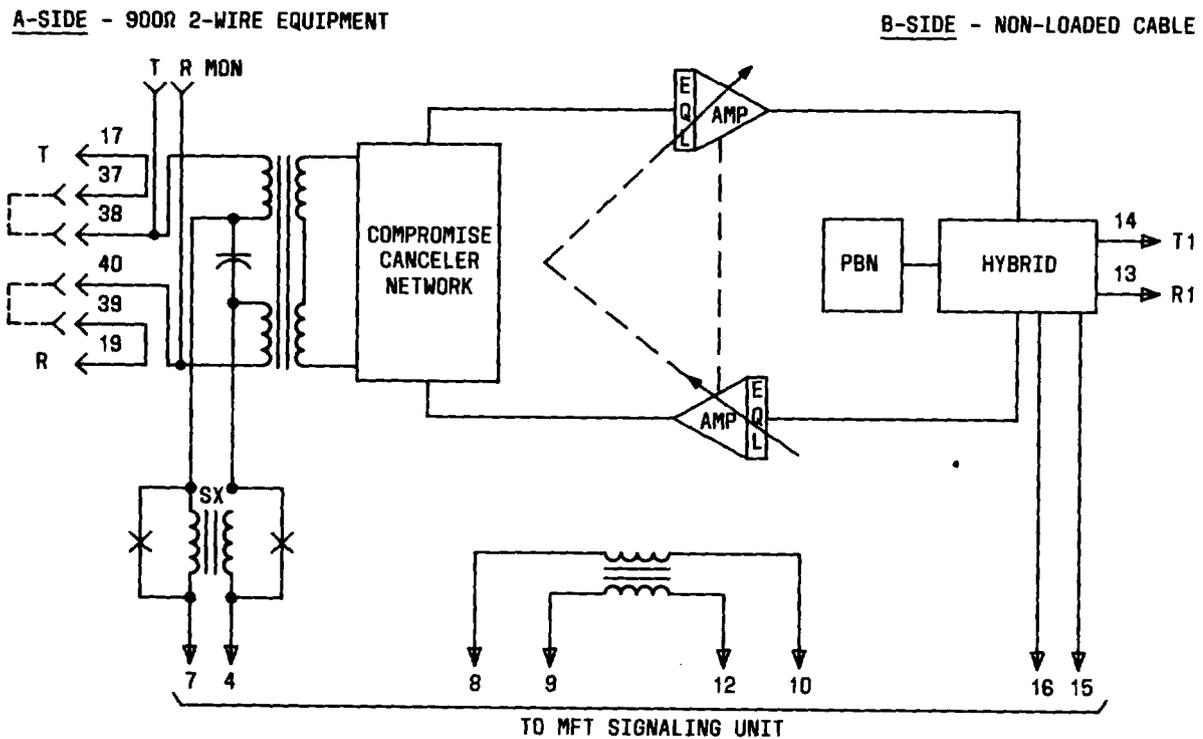

Fig. 7—Block Diagram, J99343PB, L3
**3.01** The J99343PB,L3 is shown in Fig. 6. It provides gain and equalization on 2-wire circuits between terminal equipment and nonloaded facilities. Figure 7 shows a block diagram of this unit.